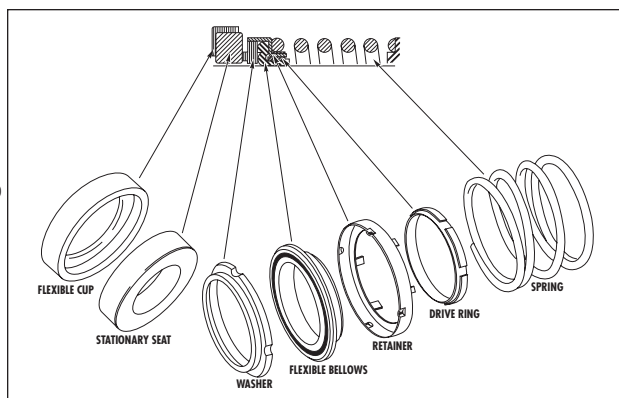

Figure 3. Mechanical Seal
- III. Place the seal's spring, drive ring, retainer, flexible bellows, and washer on shaft sleeve in respective order. (Refer to Fig. 3.)
- IV. Thoroughly inspect cavity of seal gland (31) for burrs or nicks which could damage the seat of seal. Apply a film of liquid detergent to seal seat and install it in the seal gland cavity, taking care to seat it evenly and squarely.
- I. Place one seal seat in collar (456B). The other fits into seal gland (31). These parts are set into their cavities in the same manner as they are with a single seal.
- II. Place O-rings (456A) around collars (456B) and put the collars with stationary seats facing away from impeller on ends of shaft. Slide flexible bellows, washers, and springs on shaft in the order shown in Figure 3, for each half of double seal assembly (456).
- III. Place O-rings (31A) around the seal glands (31) and slide seal glands onto ends of the shaft with stationary seats facing impeller.